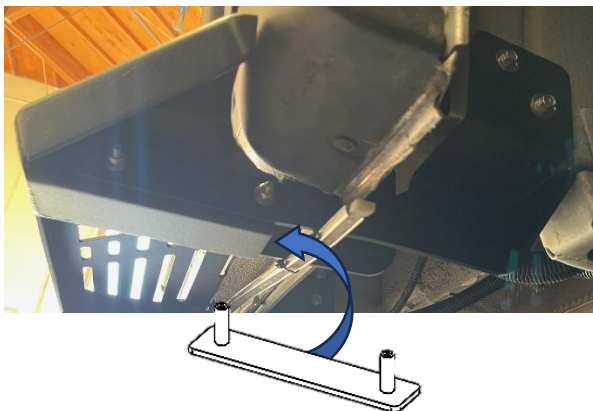

Figure 9: Installation of Threaded Insert
7. Slide threaded insert (PN 350484) into open channel at the front of the passenger side step as shown in **Figure 9**. Pull the threads through the holes to align the insert into channel.